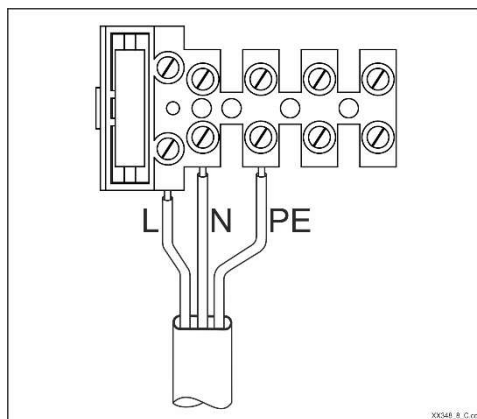

Fig. 1 Connection of 230VAC mains power to the terminal block
5. Connect the mains power cable as shown in the figure below (Fig. 1).